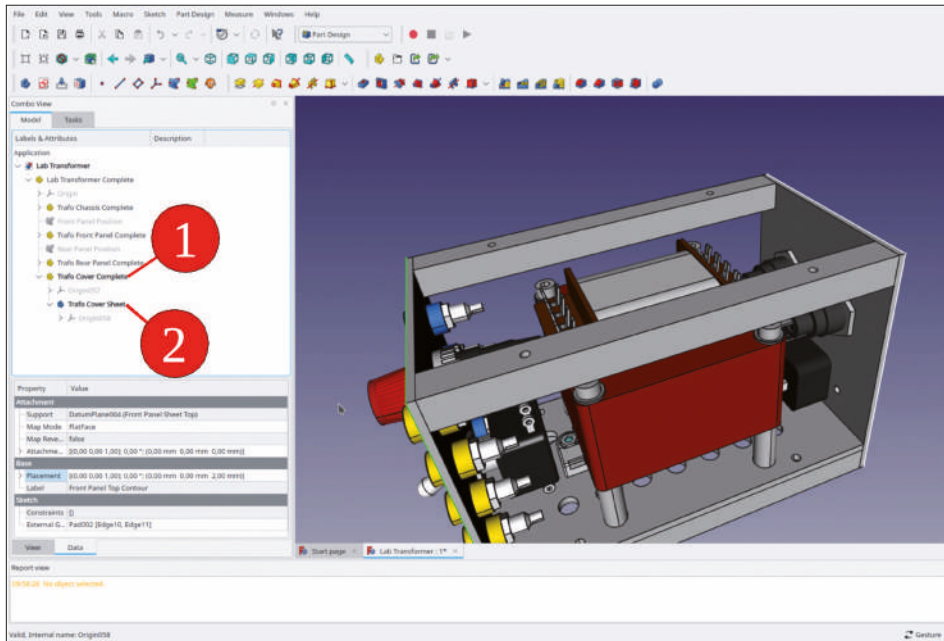

Figure 9-103
1. For the cover, start a new Std-Part-Container and rename it to 'Trafo Cover Complete'. In that container, start a new body and rename it to 'Trafo Cover Sheet' (Figure 9-103).